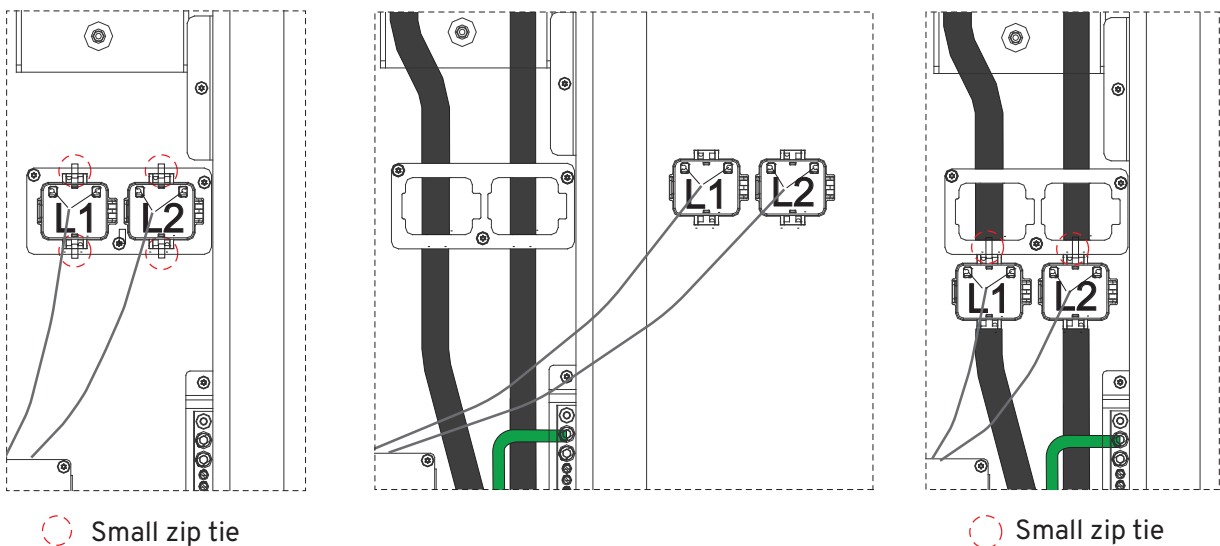

Figure 29: Location of zip ties holding CTs to bracket
- Apply PCS warning labels to CTs during installation. Only in cases where the conductors in the Hub will be greater than or equal to (\geq) AWG 1/0, you should remove the CTs from the bracket (by cutting the zip tie and taking out CTs), then route the L1 and L2 wire under bracket, and then attach the individual CTs to the conductors and tie the CTs to bracket with zip ties. (Figure 29)